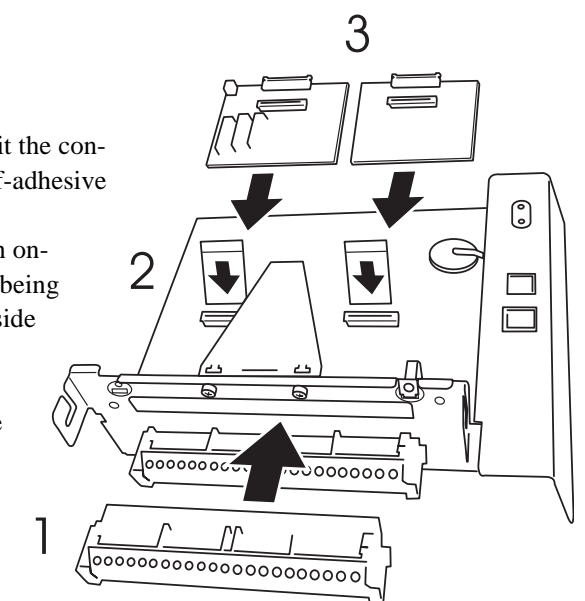

Figure 4.8 Fit connector, flexi cable(s) and option board(s)
5. Insert a polarising plug into the connector (see page 6), then fit the connector as shown as action 1 in figure 4.8. Fix the relevant self-adhesive label to the connector (see page 6).
6. Remove the self-adhesive protective film tab from one or both on-board connectors (depending on how many option boards are being fitted, and in which slot). Fit flexi-cables, with the insulated side towards the latching bars of the connectors (action 2 in figure 4.8).
7. Slide the option board(s) into the connector (action 3 in figure 4.8), ensuring that the boards are retained by the extrusion.